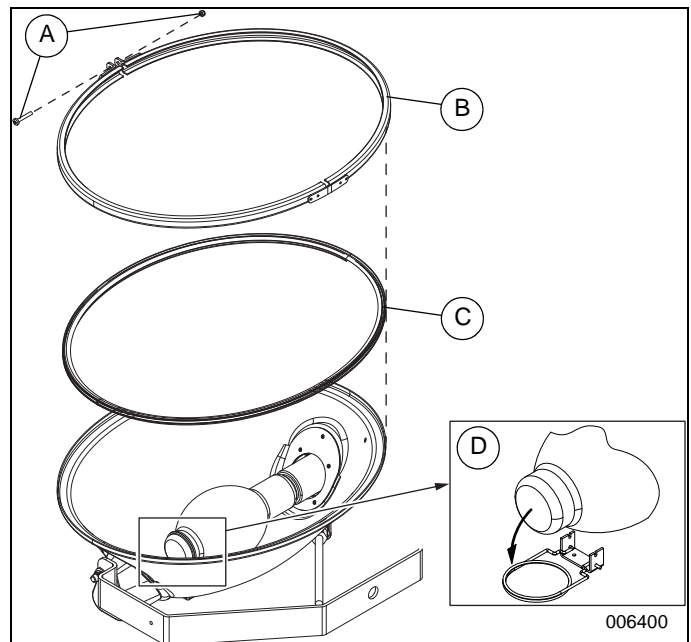

Figure 3. Bulb Removal
9. See Figure 3. Remove bulbs from light fixtures: Remove hardware (A), lid (B), and gasket (C). Unfasten bulb support (D). Remove and retain bulb.
4. See Figure 3. Remove bulbs from light fixtures as follows: Remove hardware (A). Remove lid (B) and gasket (C). Unfasten bulb support, as illustrated (D). Finally, remove and retain bulb.